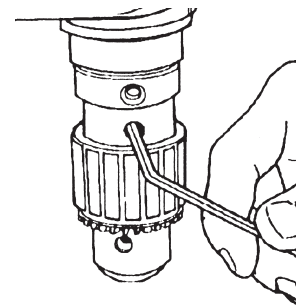

Figure 7
6. To install the Drill Chuck, mount the Chuck on the Spindle and align the Chuck's Set Screw with the Spindle Knob's Set Screw, as shown in Figure 7. This allows the Chuck's Set Screw to set on the flat part of the Spindle. Use a 5/32" Allen Wrench to securely tighten the Drill Chuck's Set Screw.